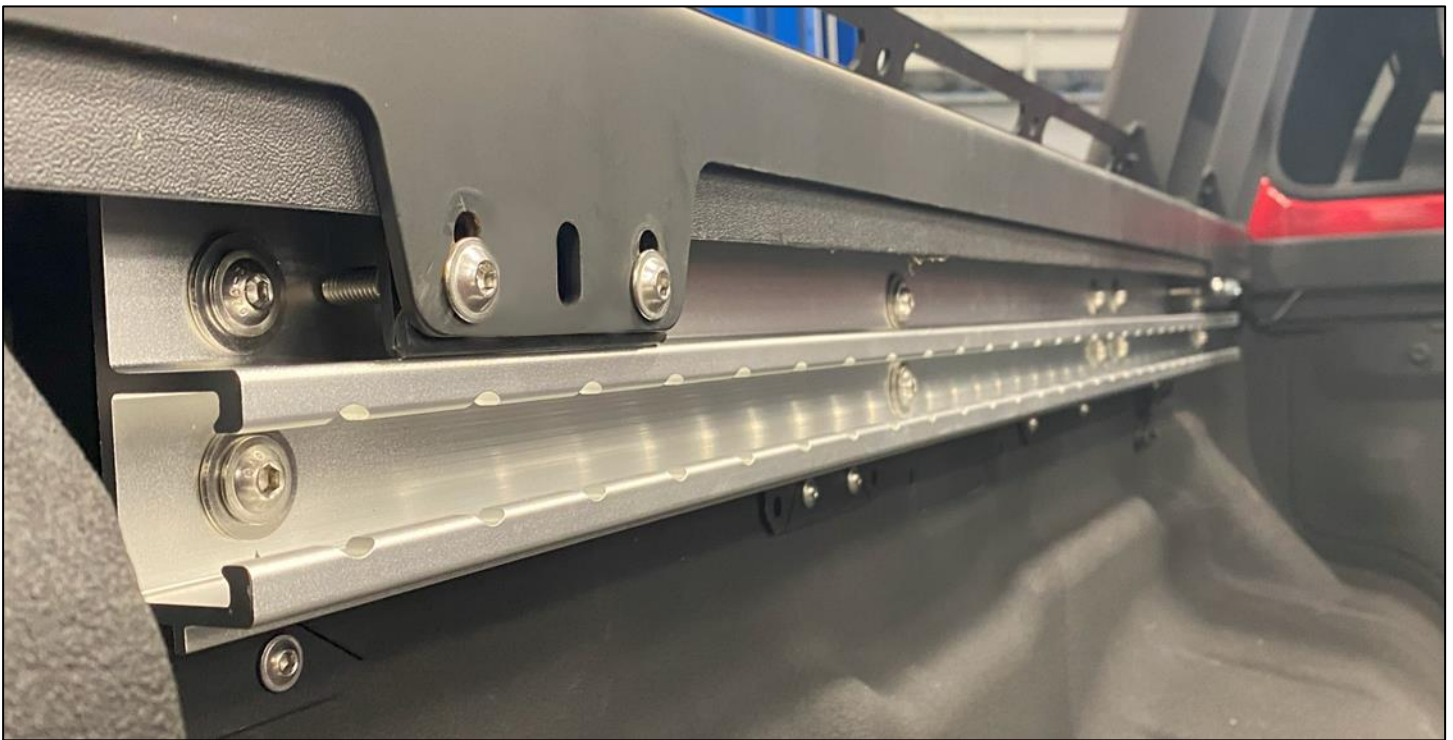

Figure 17
19. Install the Utility Track onto the bed of truck, using the (10) ten Button Head Screws from *Step 18* to secure the Utility Track to the Mounts. *Figure 17*.